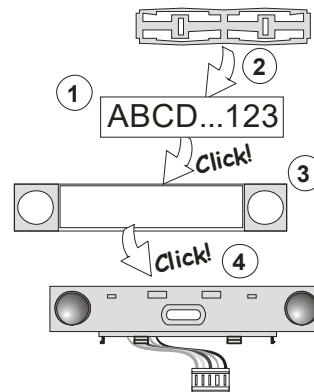

Figure 3: Insertion of a label into a control segment
- When batteries are inserted, the yellow backlit activation button (3) starts to light permanently which indicates that the module has not been enrolled to the system yet.
- Press the backlit activation button (3) – the module is thus enrolled and the yellow LED indicator goes off (this can take a few sec). An enrollment signal can also be sent by inserting the batteries.
- When you have completed installation, insert descriptive labels behind the segment transparent covers and close them, see figure 3. Label printing is a part of the F-Link software (**Devices** window, at the module position – **Internal settings**).